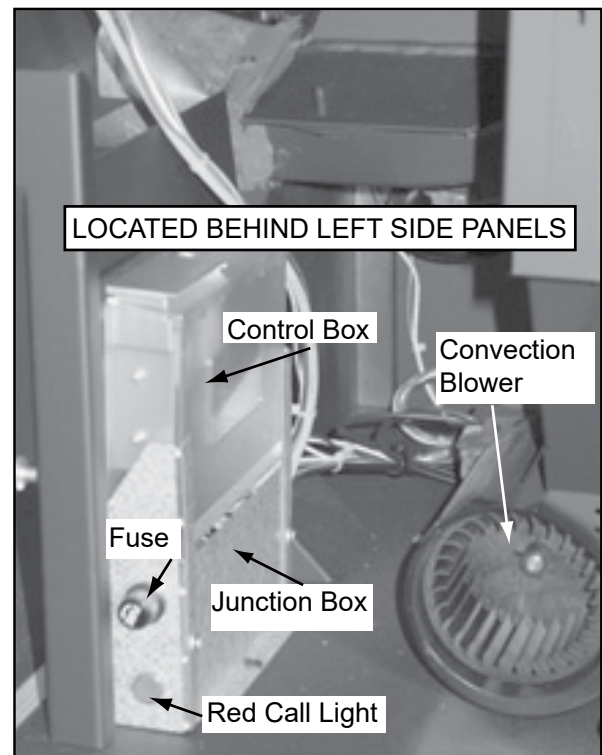

Figure 11.3
5. Look through the hole in the left lower side panel and you will see the red call light on the control box will be on (**Figure 11.3**). This indicates the thermostat is calling for heat.
NOTE: 2 AA batteries are included with the thermostat and must be installed before the appliance can be operated (**see Figure 11.3 on page 11**).